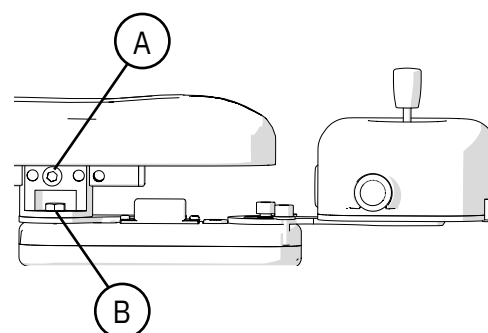

Figure 5.9.4. ParaLoc.
ParaLoc is adjustable in depth (A) and the position of the magnetic arm's lock mode (B) is adjustable, see Figure 5.9.4.